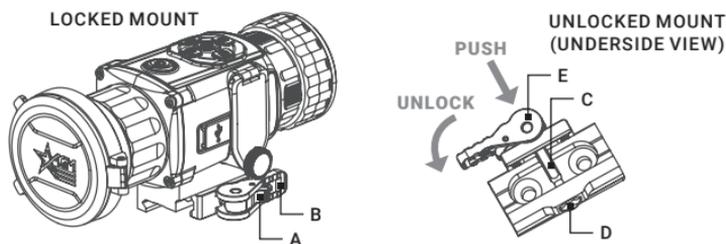

FIGURE 2-8. OPERATION OF THE QR MOUNT
To install the Rattler TC on a Picatinny/Weaver rail, perform the following (Figure 2-8):
- With the clamping device unlocked (as shown in Figure 2-8), push the cam (E) towards the arrow, which will cause the nut (D) to slide out of its hole.
3. To tighten/ loosen the clamping device, push down on the cam (E) and turn the nut (D) CW/ CCW respectively, in one-two increments (see note below). Much like when the cam (E) is released, backward-moving spring will cause the nut (D) to slide back into its hole.